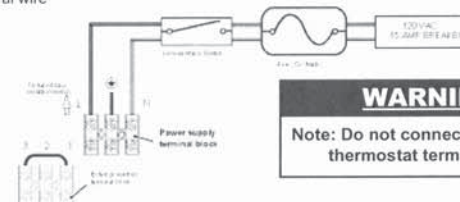

Figure 12.5
- Connect the electrical supply cable coming from the fused spur isolation switch to the power supply terminal block of the boiler (as shown in figure 12.5) keeping the same connections for the live wire and the neutral wire.